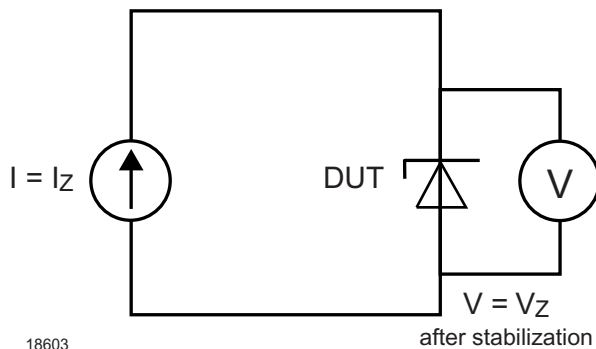

Figure 1.
A) When using a Zener Diode inside an application, most of the time this component is used as a voltage stabilizer meaning that the device is biased with a DC current. Measuring the Zener Breakdown voltage is simply operated with a current source and a Voltmeter as follow on figure1.